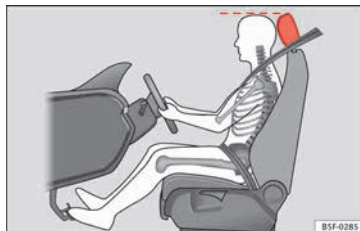

Fig. 84 Correct head restraint position for the driver.
- Adjust the head restraint so that its upper edge is at the same level as the top of your head, or as close as possible to the same level as the top of your head » **Fig. 84.**